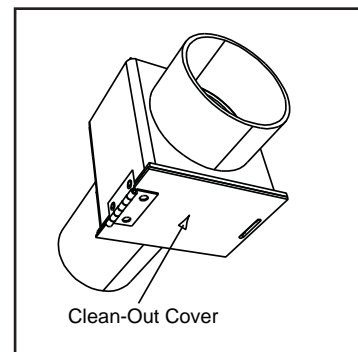

**Figure 20.1**
1. Put a layer of high temperature silicone on the 3 inch (76mm) exhaust outlet. **Do not put silicone inside of pipe. Figure 20.1**
2. Slide the top vent adapter onto the rear exhaust outlet and adjust the assembly to a vertical position. **Figure 20.1.**
5. Drill 2 holes with #26 drill bit through the rear exhaust outlet using the 2 holes already in the short horizontal pipe in the top vent adapter as a guide. Install the 2 screws. **Figure 20.1.**
1. Put a layer of high temperature silicone on the 3 inch (76mm) exhaust outlet. **Do not put silicone inside of pipe. Figure 20.1.**